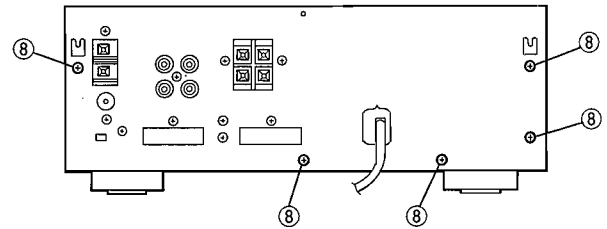

Fig. 3
- c. Remove 5 screws (8) fixing the Rear Panel in Fig. 3.